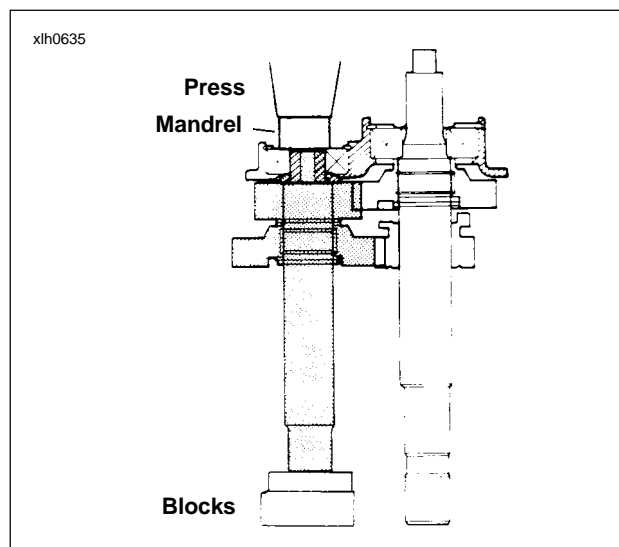

Figure 6-45.
9. See Figure 6-45. Stand countershaft assembly on press with beveled washer upward. Place access cover and mainshaft assembly on top of countershaft with bearing (1) in access cover over end of countershaft. Place a socket or section of pipe on inner race of bearing (1). Hold assembly straight, making sure gear teeth on countershaft are engaged with gear teeth on mainshaft, and press bearing onto shaft until beveled spacer bottoms against bearing.